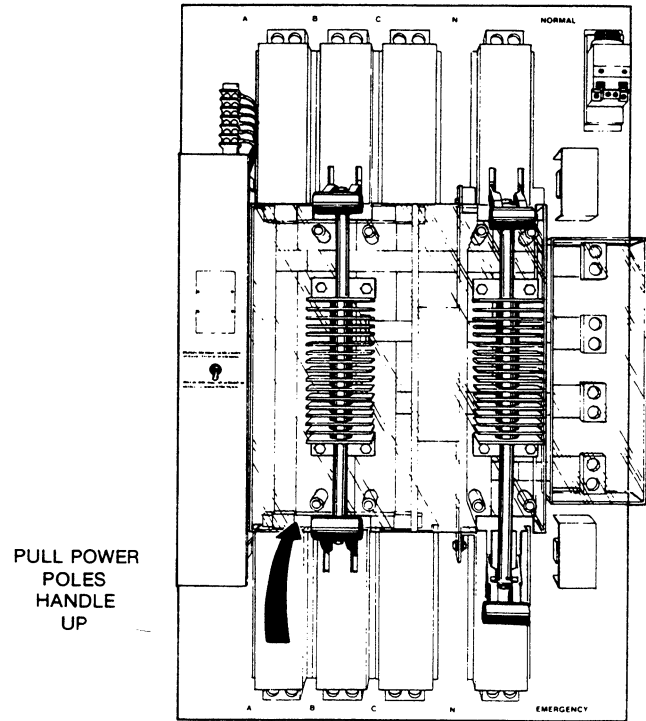

FIGURE 16.
1. Pull the lower power pole handle up, as illustrated in Figure 16, disconnecting the load from the